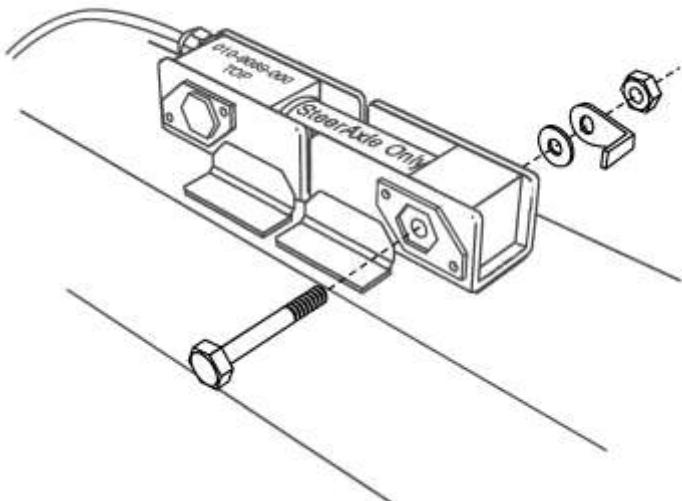

Fig. 8: Installing the Connector Tab
7. Insert the second bolt through the second bracket hole. Place the connector assembly bracket tab on the other side of the bolt facing away from the bracket. Then place a washer and a nut behind the tab. Hand-tighten the nut (Fig. 8).